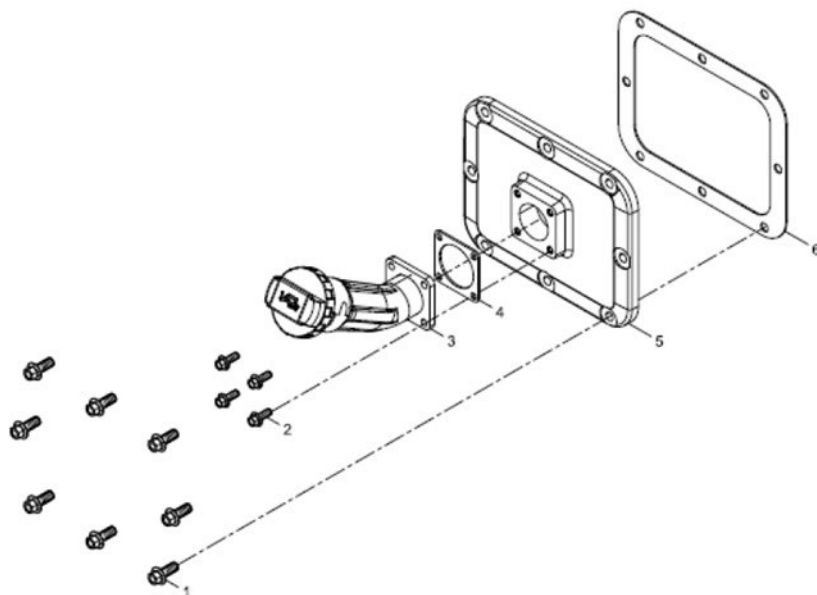

Figure 13. Oil Filling Tube Assembly
1. Loosen and remove bolts (Figure 13, Items 1 & 2).
2. Remove oil fitting tube (Figure 13, Item 3).
3. Remove oil filler tube gasket (Figure 13, Item 4).
1. Place oil filler tube gasket (Figure 13, Item 4) on the cover (Figure 13, Item 5)
2. Place oil filling tube (Figure 13, Item 3) onto gasket (Figure 13, Item 4).
3. Insert and tighten bolts (Figure 13, Items 1 & 2).